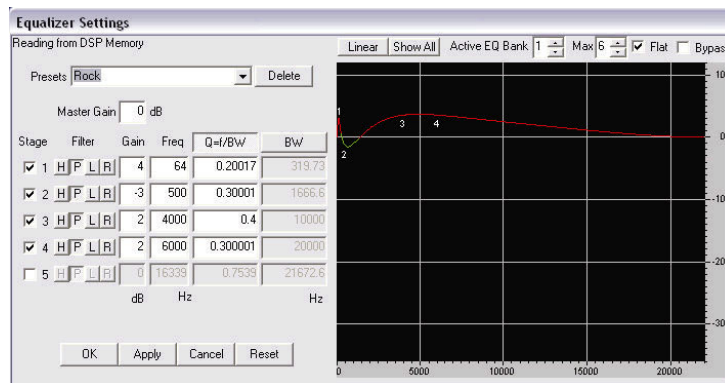

Figure 17.4: Configurable EQ GUI with Drag Points
- Contains an easy to use GUI, with drag points, see Figure 17.4